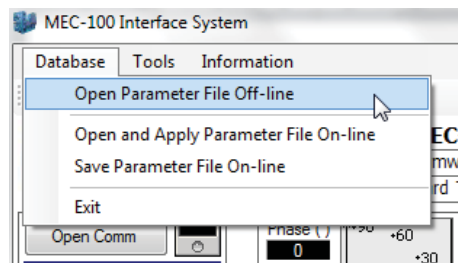

Fig. 5.6.3.a
- Click the *Database* button in the menu bar of the MEC-100 Interface System (see Fig. 5.6.3.a).